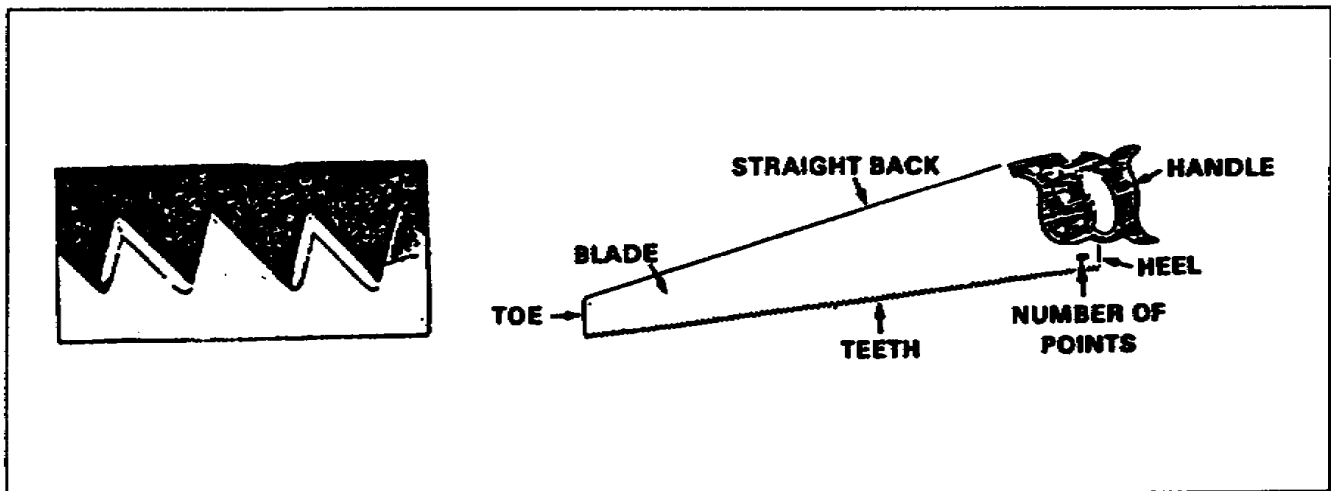

Figure 2-6. Crosscut saw
(1) Crosscut Saw. A crosscut saw (*handsaw*) (Figure 2-6) is designed to cut across the grain of the wood. Its teeth are sharpened like a knife so they will cut the fibers of the wood on each side of the saw cuts (or *kerf*). A crosscut saw is 20 to 26 inches long and has 8 to 12 teeth per inch. The number of teeth per inch is stamped on the blade near the handle.